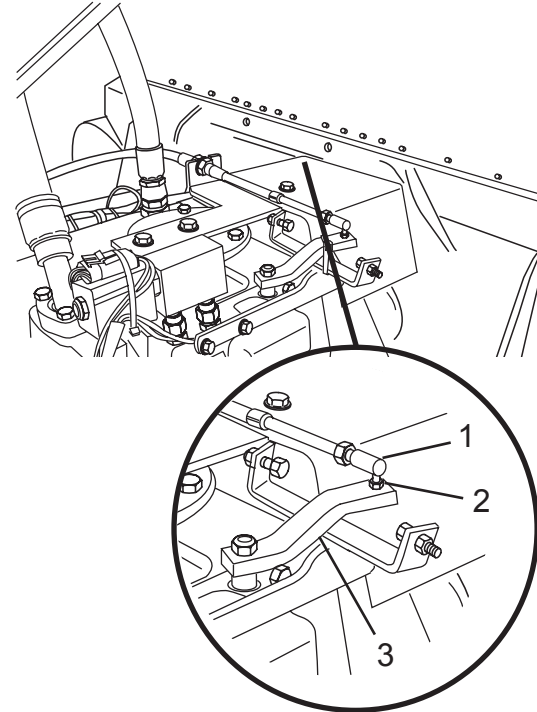

Figure 31
1. Pull back and hold the head (Figure 31, Item 1) of the control cable, and lift the end of the cable off the pivot (Figure 31, Item 2) to disconnect the control cable from the pump control lever (Figure 31, Item 3).
2. Move the pump control lever (Figure 31, Item 3) as required to start the drum rotation in the charge or discharge direction.